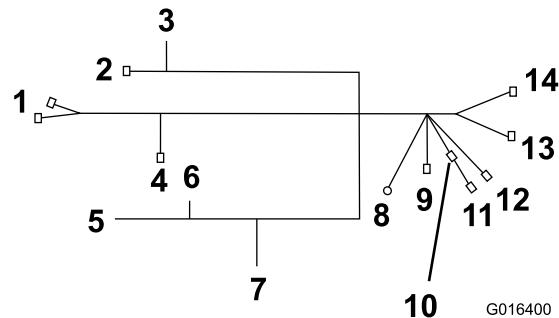

Figure 14
1. Take the branch of the wire harness with the connectors to the left-hand rear lamp, the license plate lamp, and the right-hand rear lamp (Figure 14).
1. Take the branch of the wire harness with connectors to the left-hand lamp and indicator and the horn (Figure 14).